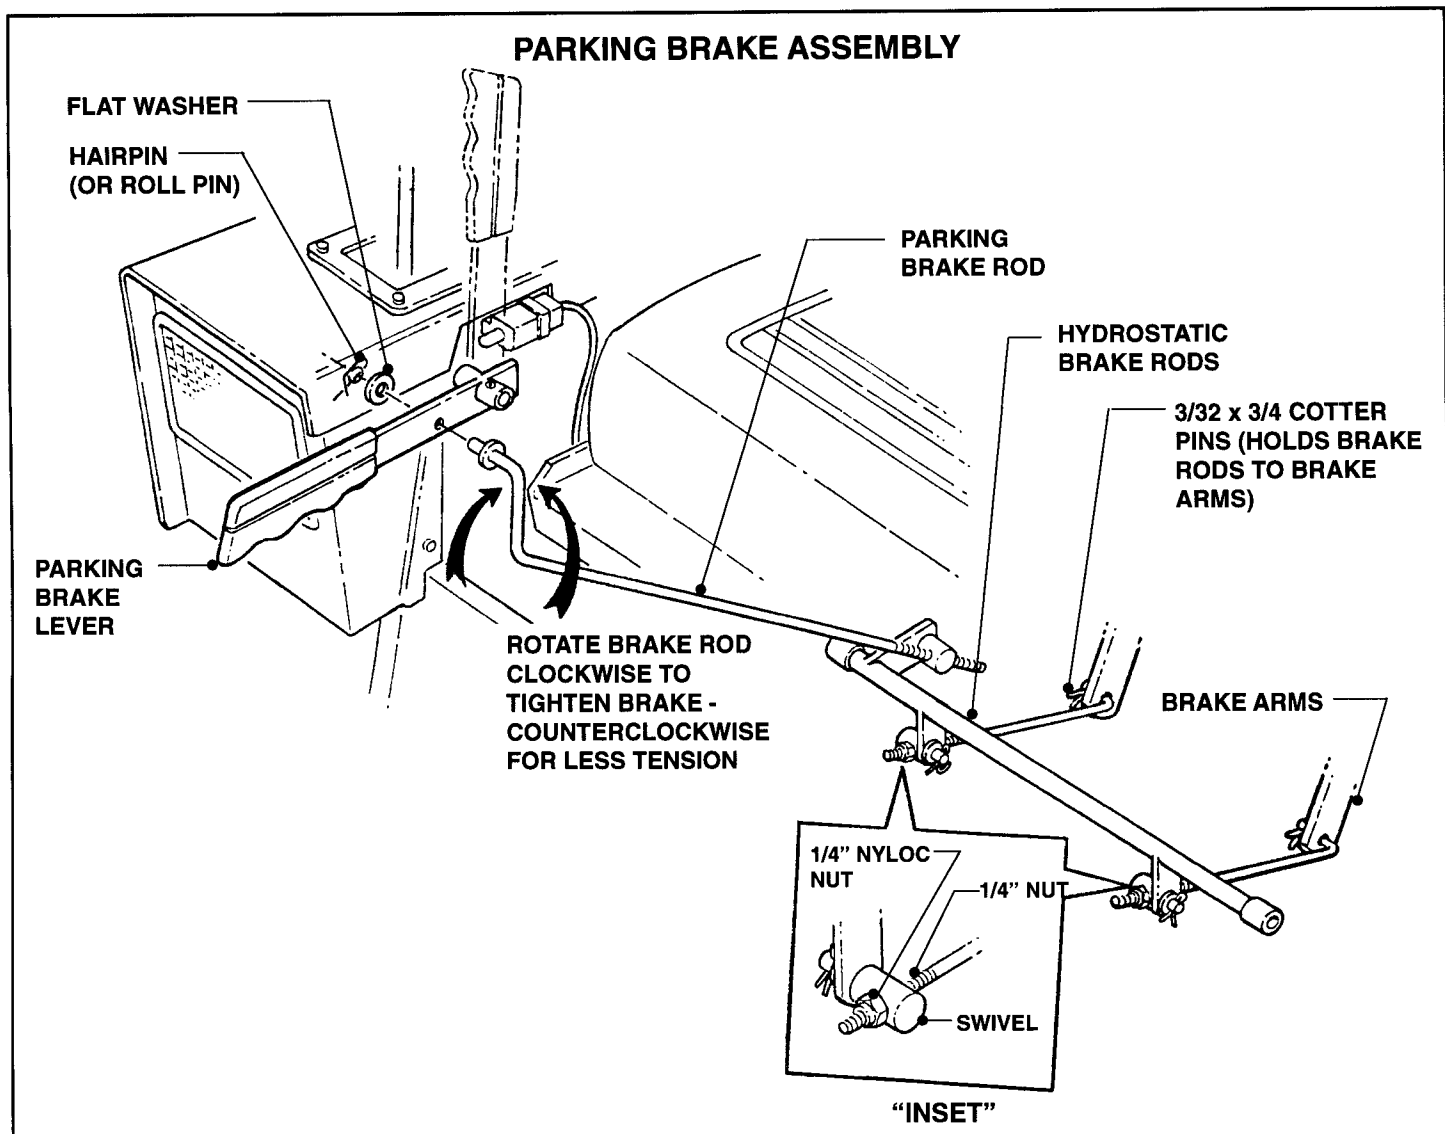

FIGURE 6.4
- a) Disconnect Parking Brake Rod from Park Brake Lever. See Figure 6.4, Page 6.4.
- b) Rotate Rod clockwise one (1) turn to tighten Brake or counterclockwise to loosen Brake tension.
- a) Rotate nut 1/2 turn clockwise to tighten Brake. (See "Inset", Figure 6.4, Page 6.4).
- G. Disconnect the Hydrostatic Brake Rod by removing the 3/32 x 3/4 Cotter Pin from the Brake Arm. Refer to Figure 6.4 on Page 6.4.